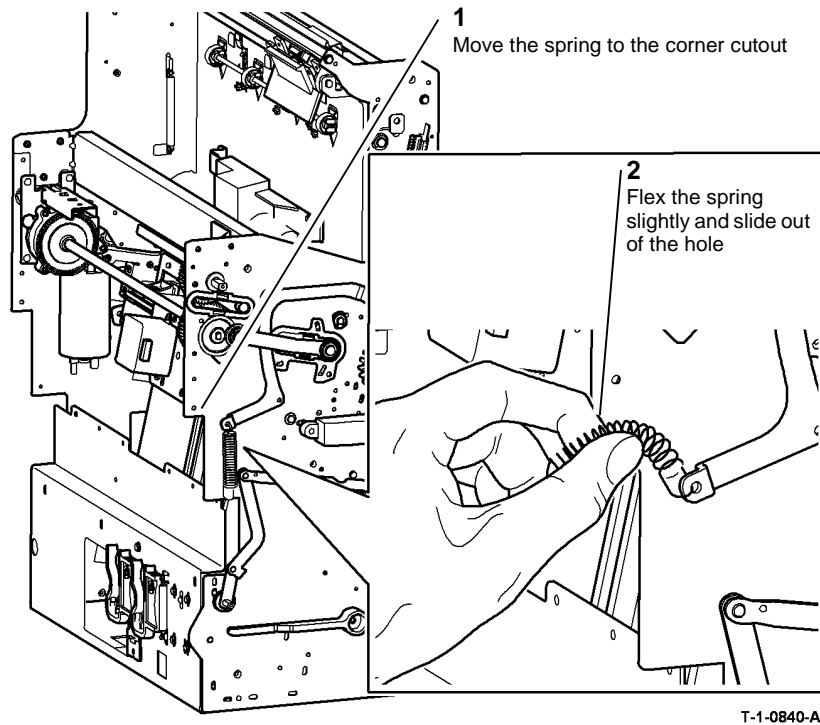

Figure 2 Front spring removal
7. **Figure 2**, remove the front spring.